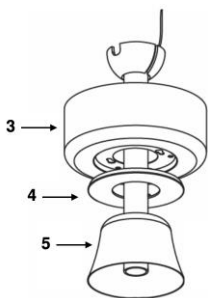

Fig. 4
4. Insert the yoke cover (#5), deco ring (#4) and canopy (#3) onto the downrod (Fig. 4).